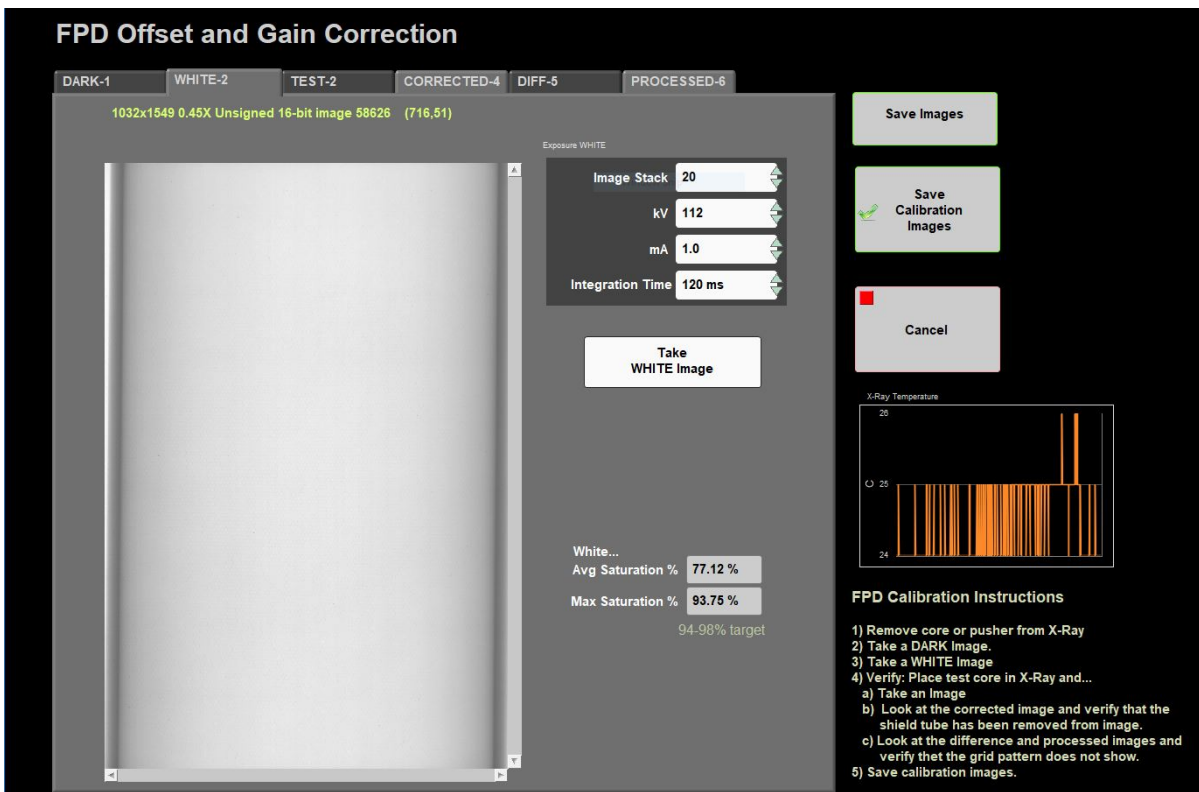

Figure 24- White Image tab in the detector calibration window
1. Select the tab labeled WHITE-2 (Figure 24).
3. Check the saturation value and confirm that it is in the target range of 94-98%. If not, adjust the exposure values and repeat (Figure 24).